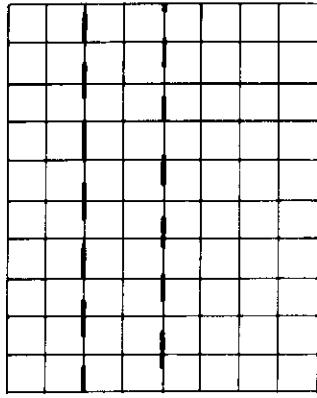

Figure 5a. Normal Display
2. Adjust the horizontal POSITION **25** control to place the waveform portion you want to magnify on the CRT center graticule (see figure 5a).